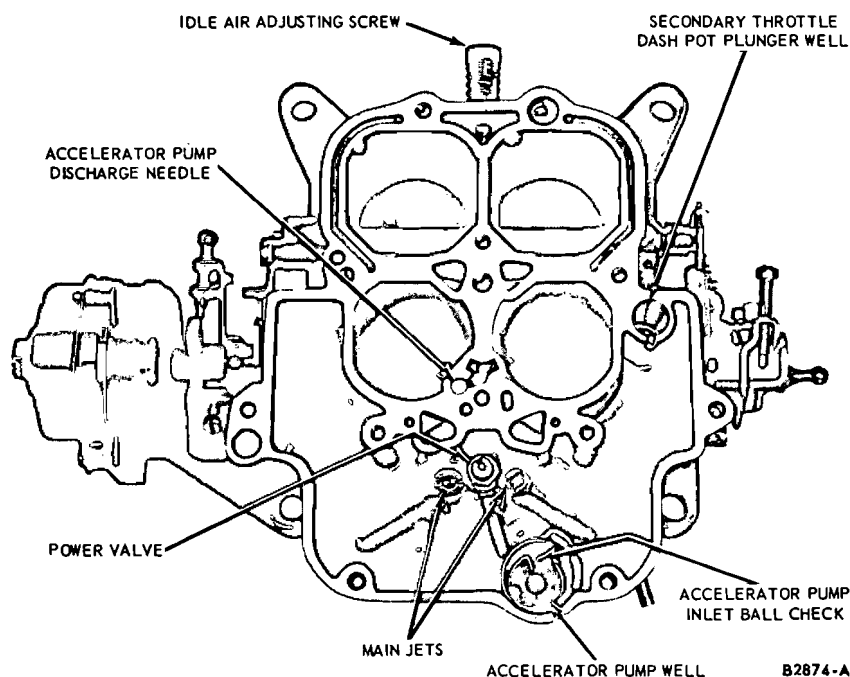

FIG. 12—Main Body Assembly
1. Turn the main body upside down and catch the accelerating pump discharge needle (Fig. 12).
3. With a 3/8 deep socket, remove the power valve from the floor of the main body fuel bowl (Fig. 12).
4. Remove the main metering jets (Fig. 12) from the fuel bowl with a jet tool.